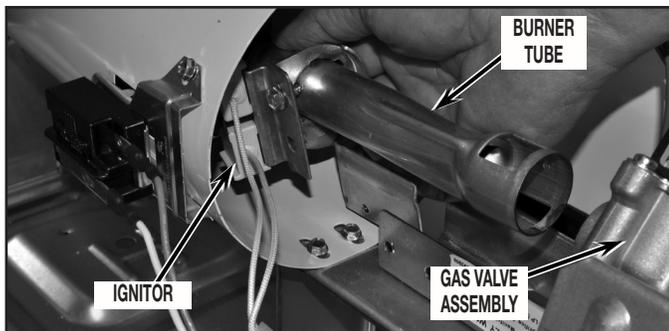

FIGURE 20
24. Slide burner tube forward far enough to gain access to orifice. Do not bump ignitor. See *Figure 20*.